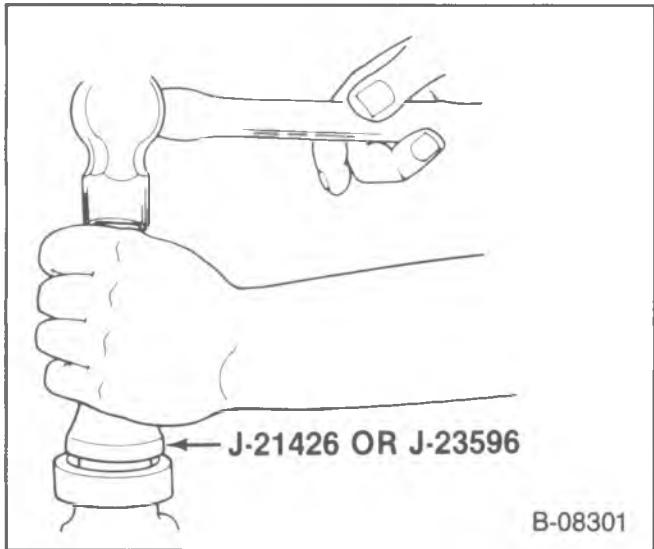

Figure 78—Installing the Rear Extension Bushing and Seal
1. New bushing (478) if needed, using a suitable tool.
- Drive the bushing into the extension (figure 78).
2. Locking compound on the outside of a new seal (421).
3. New seal (421) using J-21426, (figure 78).